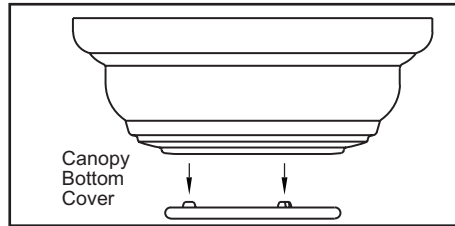

Figure 9
- Remove the decorative canopy bottom cover from the canopy by depressing the three studs (Figure 9).